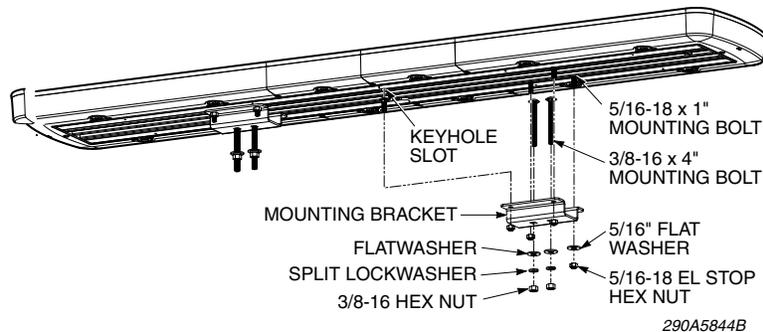

Figure 3: Hardware for Flat Surface Mount Kit
2. Insert the eight 1-inch mounting bolts into the bottom of the aluminum extrusion using the keyhole at the center of each channel. Four bolts go in each channel (Figure 3).